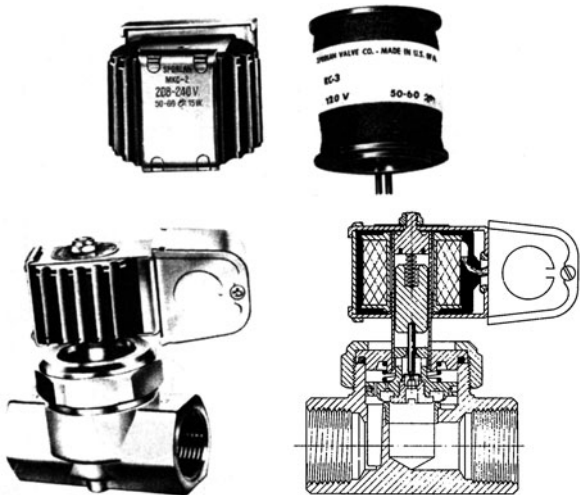

Figure 6-22 Solenoid coil and step-down transformer.
The primary purpose of an electrically operated solenoid valve is to control automatically the flow of fluids, liquid or gas. There are two basic types of solenoid valves. The most common is the normally closed (NC) type, in which the valve opens when the coil is energized and closes when the coil is de-energized. The other type is the normally open (NO) valve, which opens when the coil is de-energized and closes when the coil is energized (see Fig. 6-22).